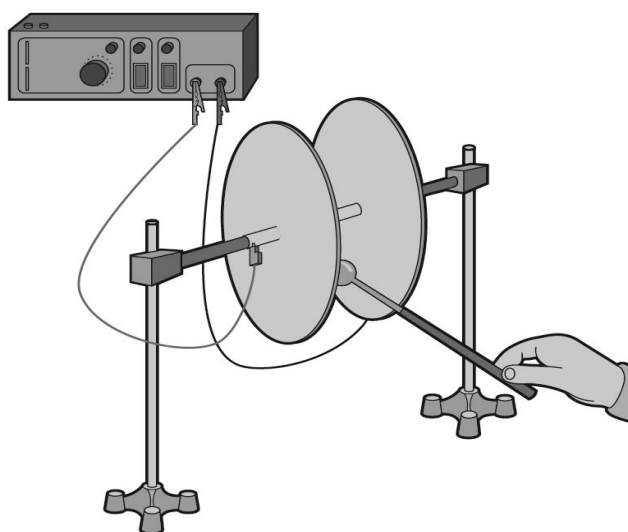

Figure 2
5. Use the red banana lead to connect one plate to the +3 kV socket in the high voltage power supply (see Figure 2).
6. Use the black banana lead to connect the second plate to the -3 kV socket in the high voltage power supply (see Figure 2).
7. Position the two plates parallel to each other so that the distance between them is 3 cm (see Figure 2).
5. Touch the inside of the plate that is connected to the positive terminal of the power supply with the charge sampler (see Figure 2).